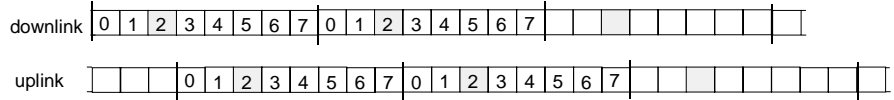

Fig. 23 Active timeslots for Uplink and Downlink
8. The same timeslot is used for Uplink and Downlink (Fig. 23).